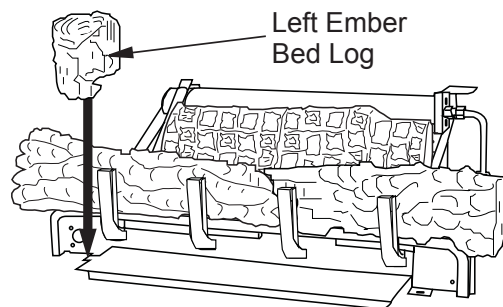

Figure 29 - Installing Left Ember Bed Log
3. Place left ember bed log as shown in **Figure 29**. The log has groove on one side that sets on the ember bed pan. The back side of this log needs to rest against the